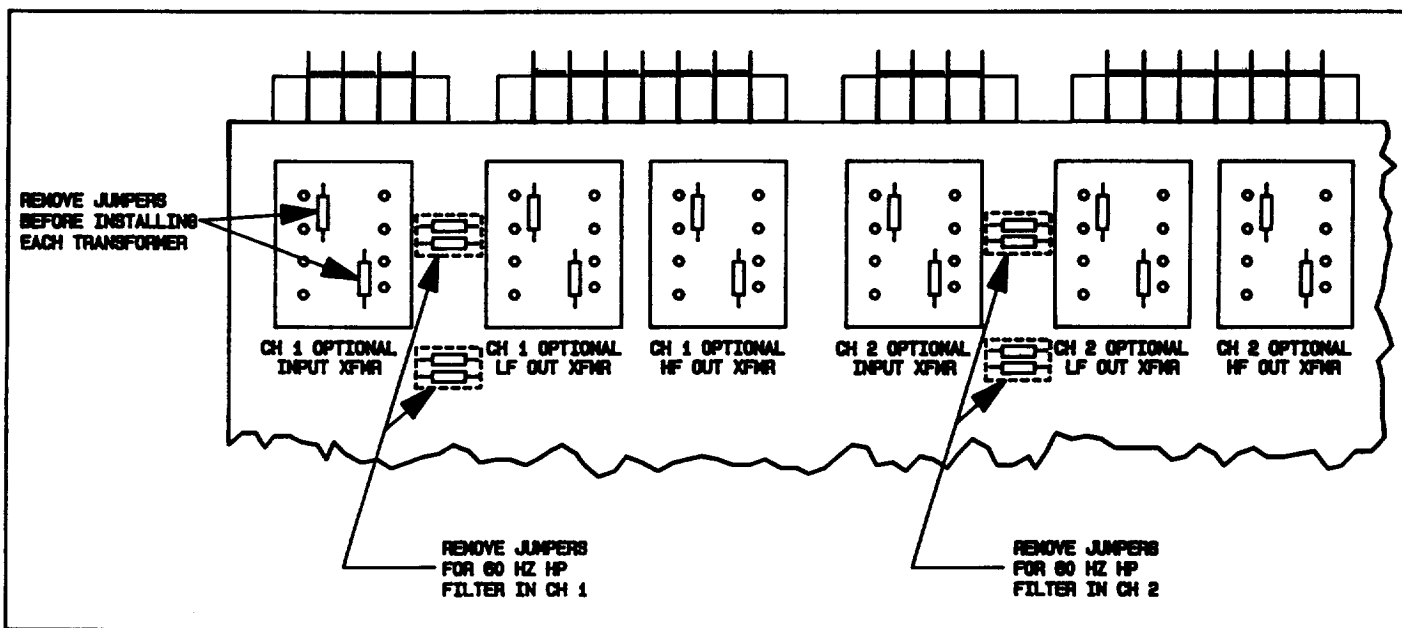

Figure 5. Location of optional line transformers and input filter jumpers.
2. Locate the transformer mounting areas near the rear of the circuit board. See Figure 5 for exact locations.
3. Cut and remove the two jumpers for each transformer installed. These jumpers are indicated in Figure 5.
2. To change to 60 Hz, locate the four appropriate jumpers. See Figure 5. Channel 1 jumpers are labeled J10, J11, J12, and J13. Channel 2 jumpers are labeled J210, J211, J212, and J213. With a pair of side cutters cut each jumper and remove it from the circuit board.